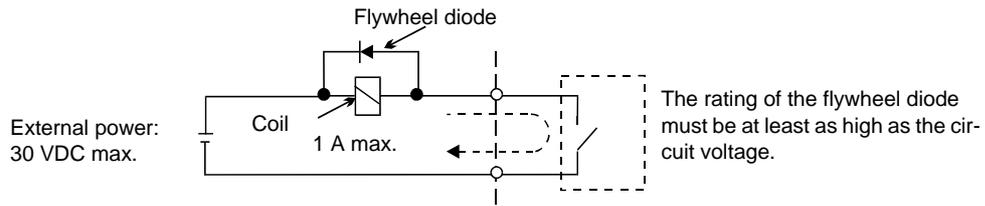

Fig 2.10 Flywheel Diode Connection
- *2. When driving a reactive load, such as a relay coil with DC power supply, always insert a flywheel diode as shown in Fig 2.10